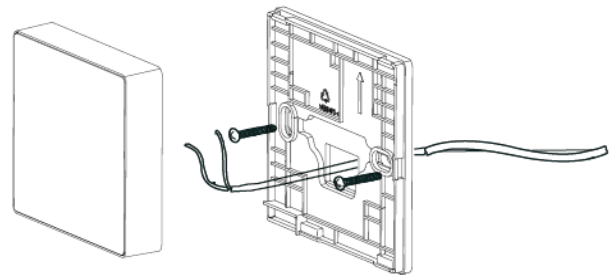

Fig. 4 — Attaching Back Plate
8. Attach the back mounting plate directly over the opening using 2 screws, and route the control cable as shown in Fig. 4.